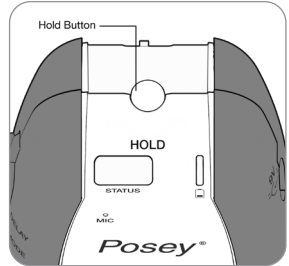

Fig. 11
1. Press **HOLD** button on the top of alarm (Fig. 11) The **STATUS LED** will begin flashing RED indicating the alarm is in HOLD mode.
1. Press **HOLD** button on the top of alarm (Fig. 11) for 3 seconds. The **STATUS LED** will begin flashing RED indicating the alarm is in **HOLD** mode and an audio cue will say "5 minute HOLD activated".